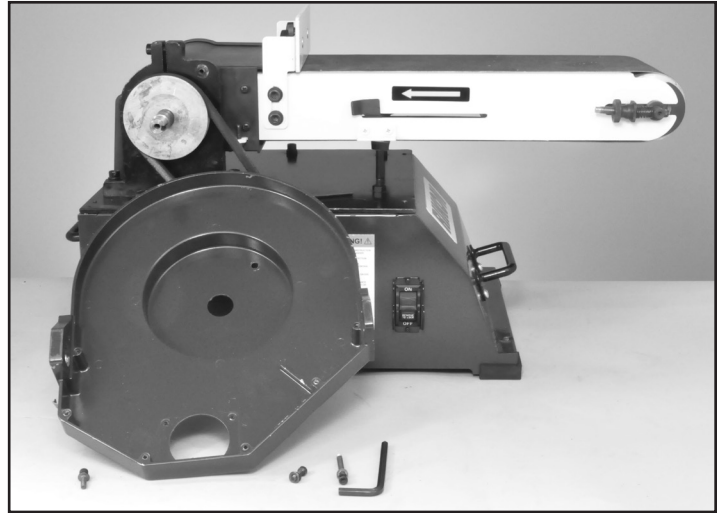

FIG. 22
6. Unscrew the Disc Frame from the sander's cabinet. Remove three screws - two on top of the frame (#38) and one longer screw from the interior of the frame (#91A). FIG. 22.